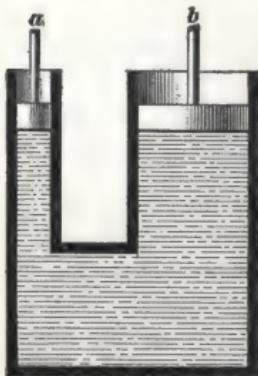

FIG. 9.
**18.** In Fig. 9, let the area of the piston *a* be 1 square inch; of *b*, 40 square inches. According to Pascal's law, 1 pound placed on *a* will balance 40 pounds placed on *b*.